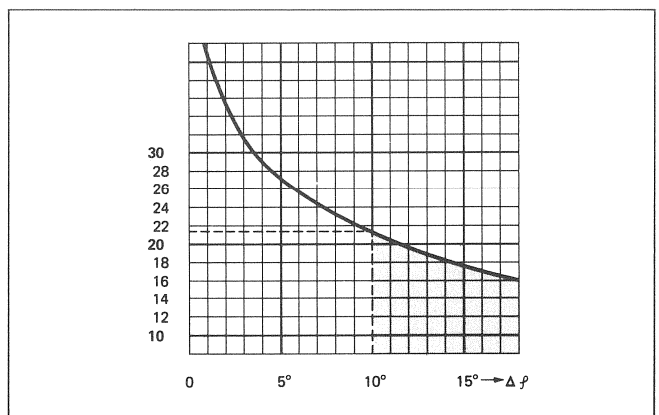

Fig.5.11
8. To find the phase angle difference according to fig.5.11 take the difference in level Ps - Pd. The angle of error can be read from the curve.